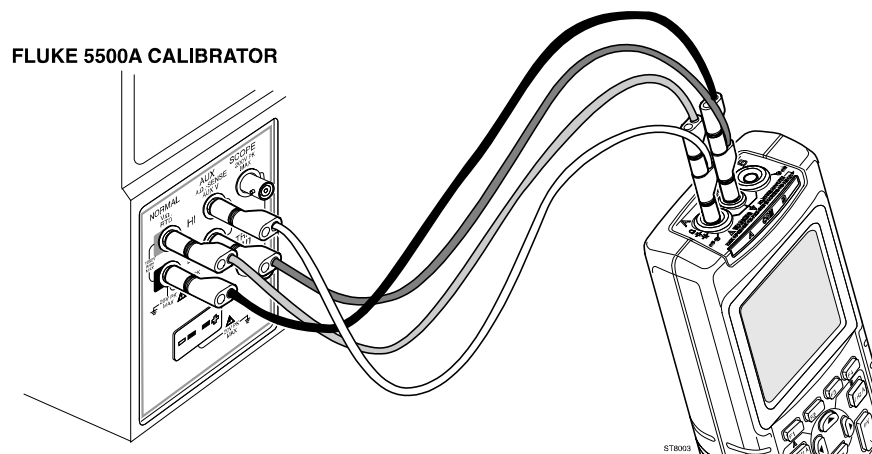

Figure 4-7. Test Tool Input A to 5500A Normal Output 4-Wire
1. Connect the test tool to the 5500A as shown in Figure 4-7.
1. Connect the test tool to the 5500A as for the previous test (see Figure 4-7).
1. Connect the test tool to the 5500A as for the previous test (see Figure 4-7). Ensure that the 5500A is in Standby.